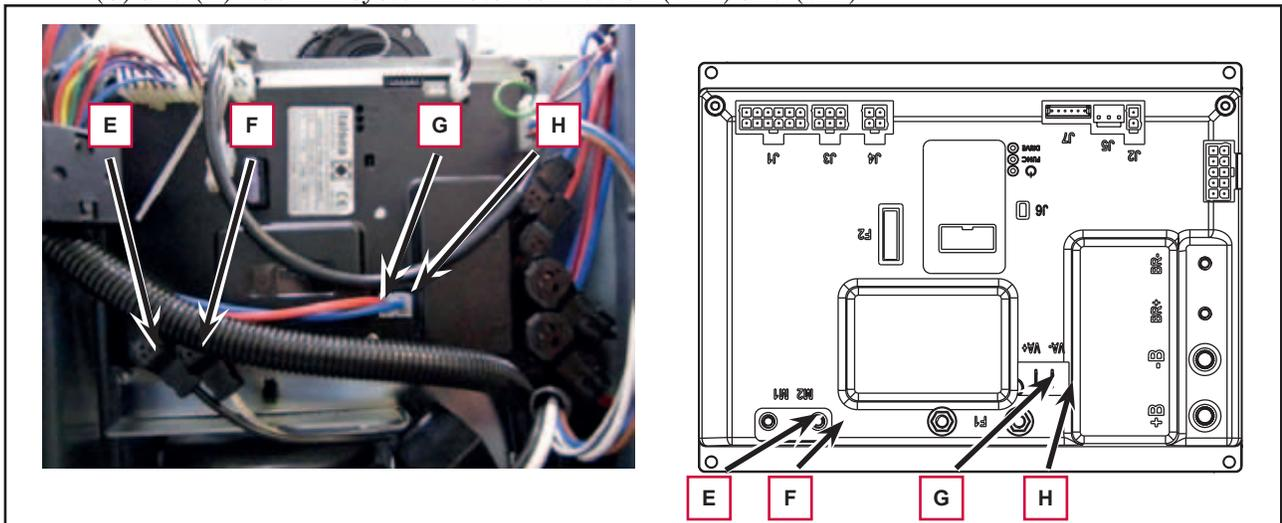

Figure 12
7. Disconnect the following connections sequentially (Figure 12):
- (E) and (F) Drive system motor connection (M1) and (M2).
- (G) and (H) Vacuum system motor connection (VA+) and (VA-).